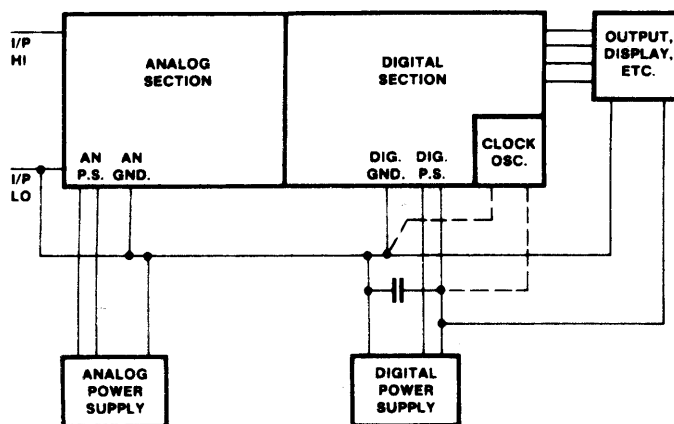

FIGURE 8.
- This symptom is typically a result of grounding problems or digital signals coupled to analog lines. Connect pin 11 (analog ground) to the 100k $\Omega$  resistor at signal input. If the offset disappears, the problem is a result of IR drops in the ground line. Reconnect ground lines similar to Figure 8.